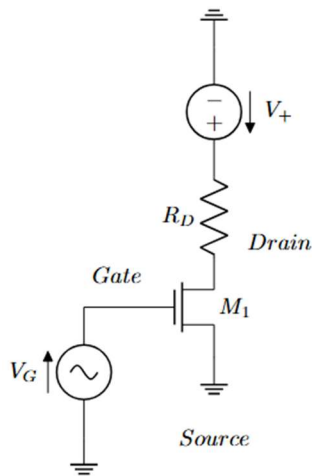

Figure 2 – Simplified MOSFET Test Circuit
- I. Build the following circuit in Figure 2 on your breadboard using a 2N7000 Transistor and insert a picture of this. **(5 Points)**